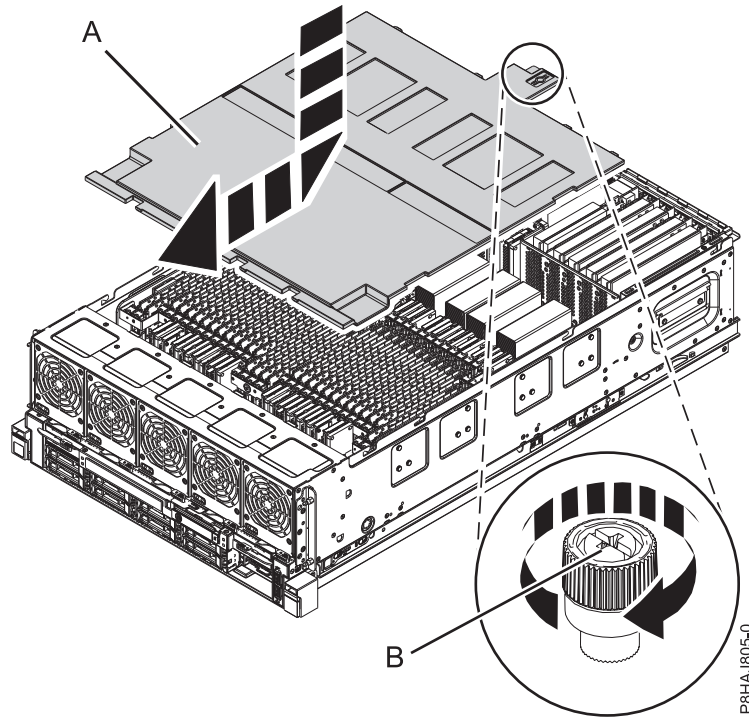

Figure 42. Replacing the safety cover
2. Push the safety cover (A) toward the chassis.
3. Tighten the thumbscrew (B) by turning it in the direction shown in Figure 42 on page 49 to fix the safety cover to the chassis.